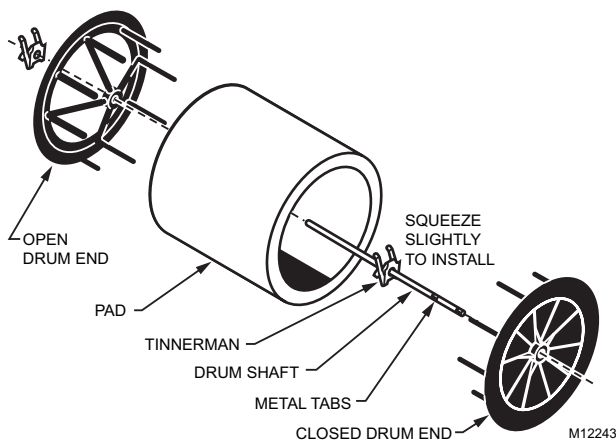

Fig. 3. Drum and humidifier pad assembly.
22. Assemble the drum and humidifier pad. See Fig. 3.